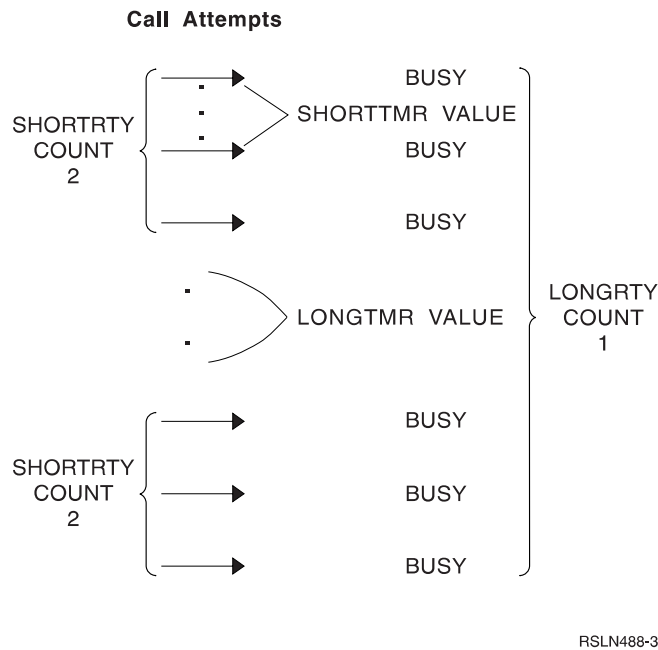

Figure D-3. Redial Considerations for X.21 Switched Lines
X.21 Switched Lines: An equivalent function for the number of dial retries and the redial delay time is provided when creating a line description using the Create Line (SDLC) (CRTLNSDLC) command. Four parameters short timer (SHORTTMR), long timer (LONGTMR), short retry (SHORTRTY), long retry (LONGRTY) are provided to describe the dial retry effort. Figure D-3 on page D-8 shows the relationship between the parameters.